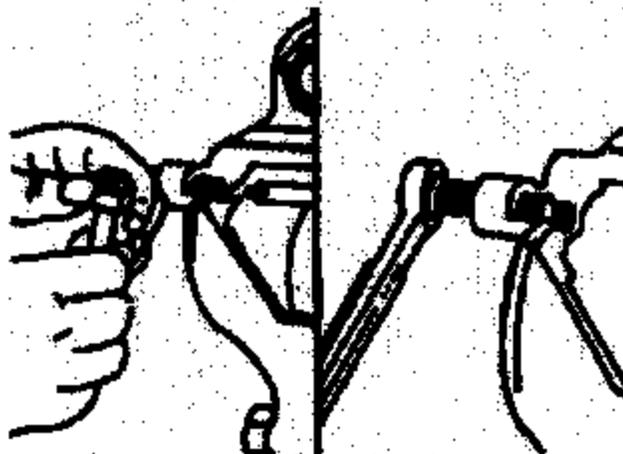

Figure 18
2. If a new poppet adjusting screw and nut are being used, turn the screw into the non-sealing end of the jam nut until the device end of the screw is flush with the nut (Figure 18).